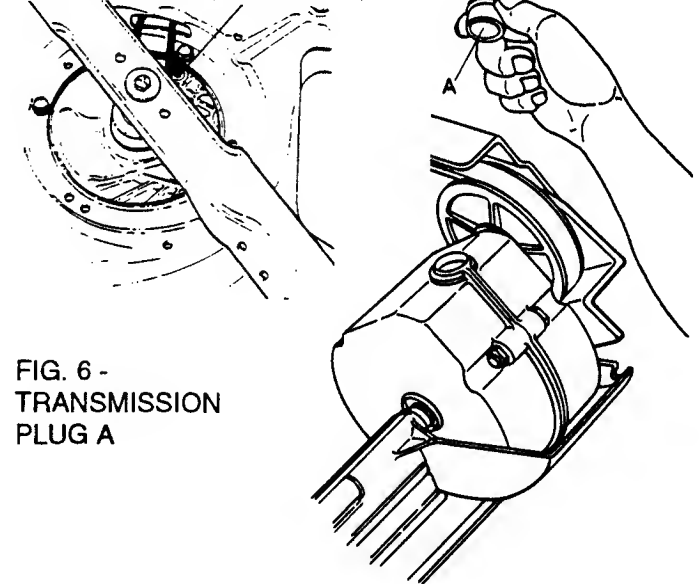

FIG. 6 -
The transmission is filled with 4 ounces of **SNAPPER "00"** grease at the factory and under normal usage, will not require additional grease. It is recommended that plug (A) be removed after every 25 hours of operation, and a visual determination of the lubrication condition of the transmission be made. If grease IS NOT visible on the INPUT GEAR (the small gear below the plug opening), add a small amount of **SNAPPER "00"** grease. Reinstall the plug (A) after servicing the transmission. Refer to FIG. 6.